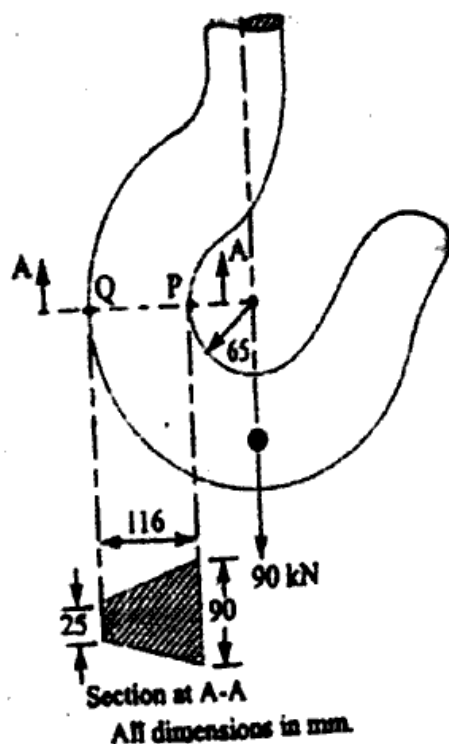

FIGURE. 7
6. a) A crane hook has a trapezoidal section at A – A as shown in figure 7. Find the maximum stress at points 'P' and 'Q'. 10